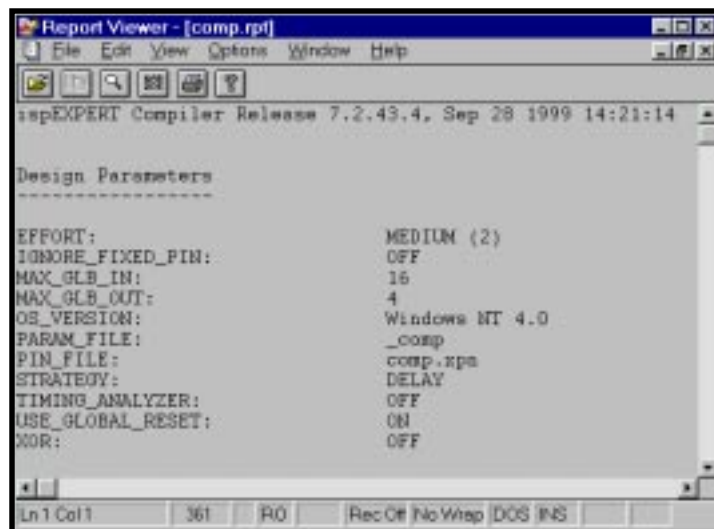

Figure 4-21. Compiler Report
4. Double click on Compiler Report in the Processes window to see the statistics related to the fitting of your design (Figure 4-21).